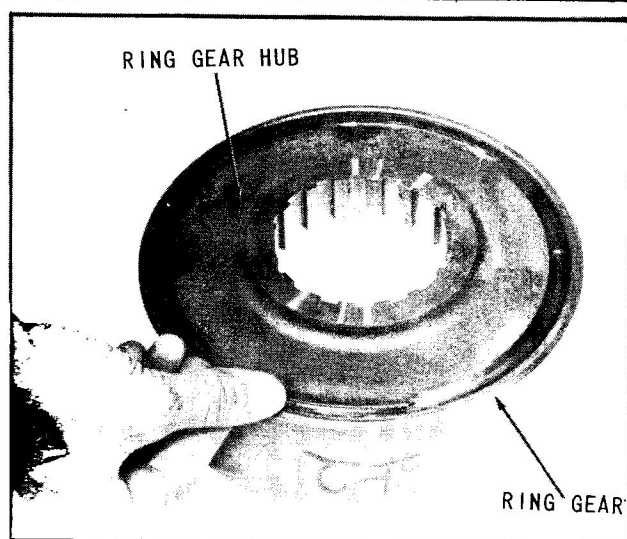

Fig. 62 Replace Snap Ring
1. Replace ring gear hub in ring gear and install snap ring, (Fig. 62).